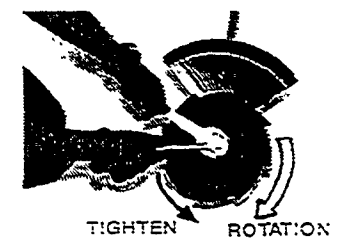

Figure 22
Remove bolt (LH), star washer and small flat washer at the bottom of gear case (Fig. 22).
- Remove holder (B) and place blade on holder (A) making sure that arbor hole in blade is centered on the arbor embossment on holder (A).
- Install holder (B) making sure that the splines line up and holder is completely seated.
- Re-install small flat washer, star washer, and bolt (note bolt is left hand thread) and is turned counterclockwise to tighten (Fig. 22).